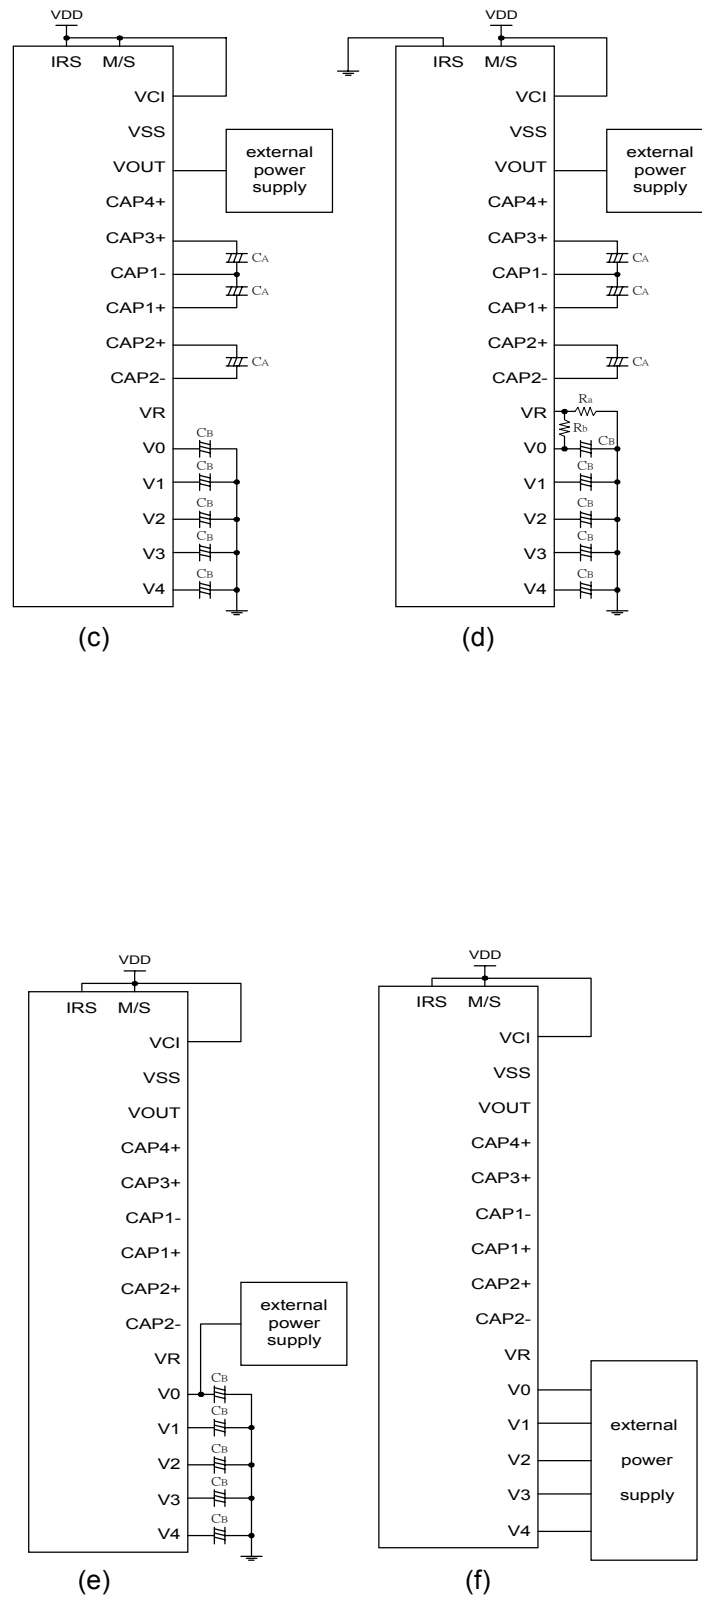

Fig. 12
1. When used all of the step-up circuit, voltage regulating circuit and V/F circuit, and the voltage regulator internal resistor is used. Fig 12-(a)
2. When used all of the step-up circuit, voltage regulating circuit and V/F circuit, and the voltage regulator internal resistor is not used. Fig 12-(b).
3. When the voltage regulator circuit, V/F circuit and the V_0 voltage regulator internal resistor are used. Fig 12-(c).
4. When the voltage regulator circuit and V/F circuit are used, and the V_0 voltage regulator internal resistor is not used. Fig 12-(d).
5. When the V/F circuit is used. Fig 12-(e)
6. When not using any internal LCD power supply circuit. Fig 12-(f)